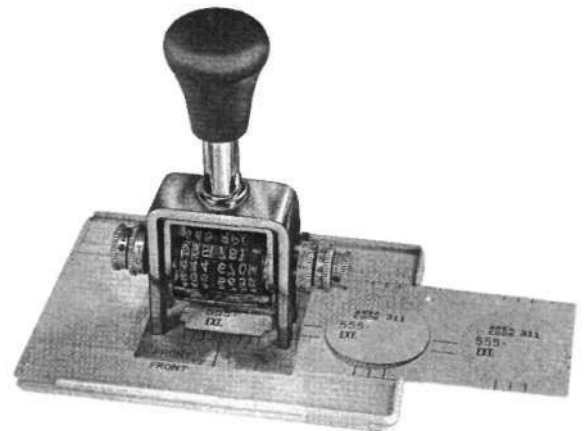

Fig. 7 - Aligning Numbering Machine (4-Digit Number)
- (3) Place numbering machine so that it fits in the lower indentation of lid directly over red guide line (Fig. 7).